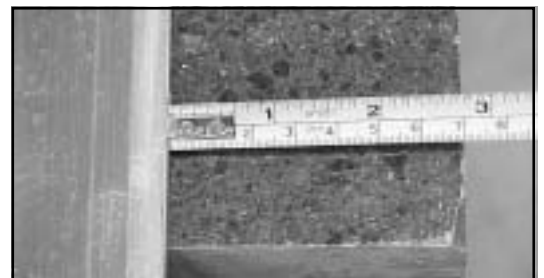

Figure 16
- b. Set your guide rail 2 3/4" (7 cm) away from the edge of aluminum guide rail plate as parallel as possible with the edge that has to be polished. Check your layout to ensure that there is 2 3/4" (7 cm) between the guide rail plate and the edge of your work piece. (See figure 16)